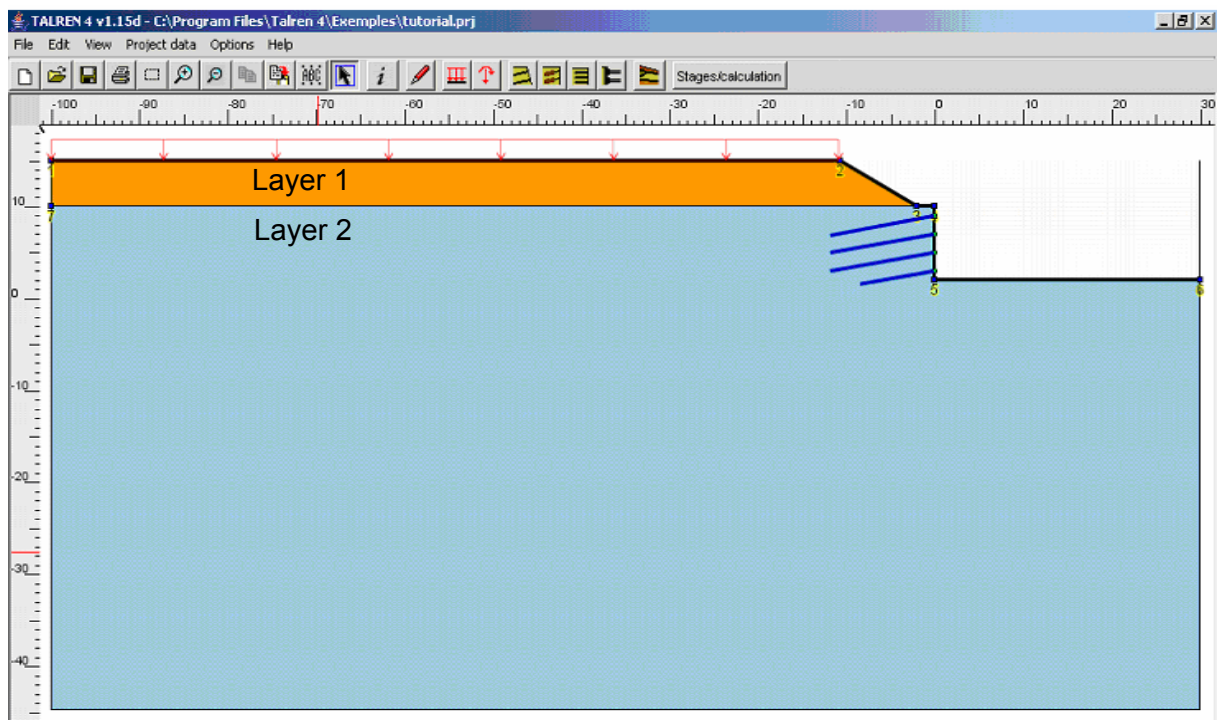

Figure 14: graphical view after soil properties assignment
- To assign soil properties to a soil cluster, let's use drag & drop: click with the left mouse button on the soil layer that you want to assign (in the left list of soil properties dialogue box), then, keeping the mouse button pressed, move the mouse onto the soil cluster you want to assign the layer to. Release the mouse button: the soil cluster will be painted with the same colour as the soil layer. Repeat the same operation to assign soil properties to all soil clusters. Close the dialogue box. The layout now looks like Figure 14.